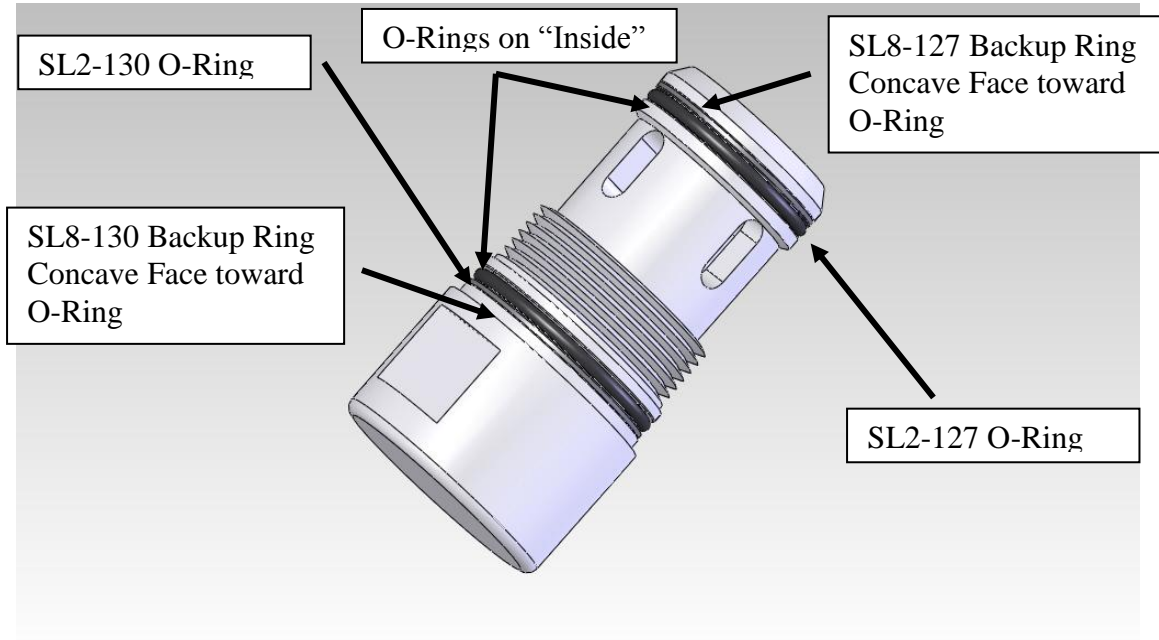

Figure 2
8. Install new O-ring and Back-up rings as per Figures 2 and 3.